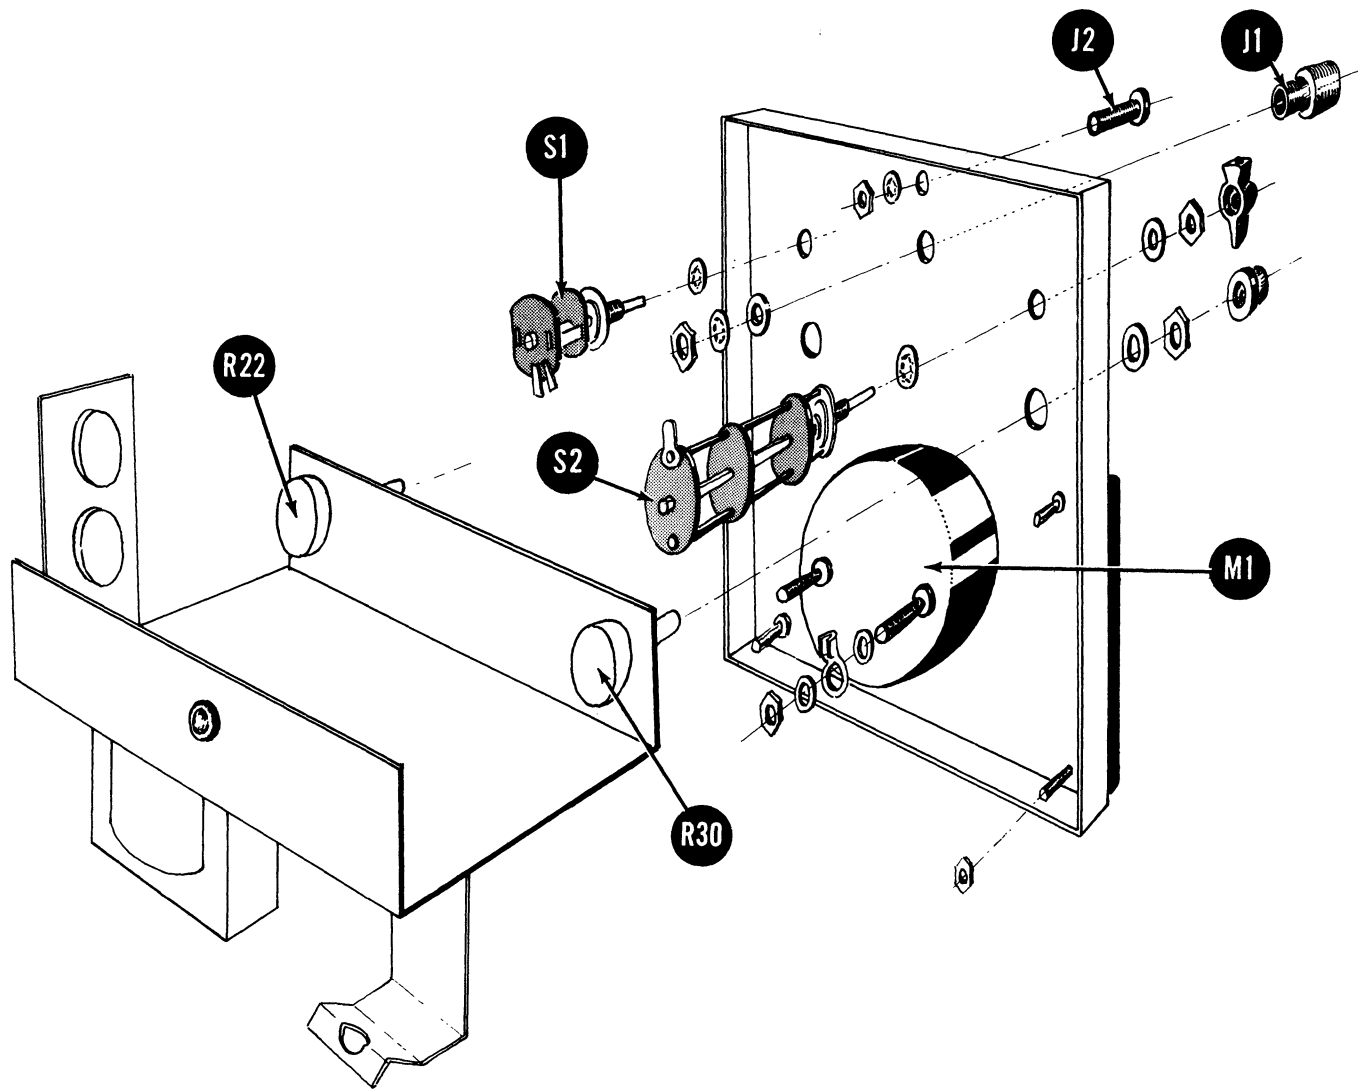

Fig. 6
- () Fig. 6. Mount the male co-axial connector J1 on the panel. A little pressure is required to imbed the knurled edge in the panel hole. Use a 3/8 flat fibre washer, a 3/8 lockwasher and a 3/8 hex nut.
- () Fig. 6. Mount the banana jack J2 with a 1/4" lockwasher and a 1/4"-28 hex nut.
- () Fig. 6. Mount the meter movement M1 on the panel with the hardware supplied in the box it is packed in.
- () Fig. 6. Mount the remaining hardware found in the box on the meter terminals.
- () Fig. 6. Remove from controls R22 and R30, the 3/8" hex nut and flat washer on the outer side of the front chassis apron. Fit the shafts of R22 and R30 through the mating holes in the panel and fasten panel to chassis by restoring the hardware previously removed. Be certain that no hardware of any kind has been left between the panel and the front chassis apron.
- () Fig. 6. Mount the function switch S1 with one 3/8" hex nut, one 3/8" lockwasher and one 3/8" flat washer. Switch is in correct position when the two lugs on the back side of the rear wafer are facing toward the top of the panel.